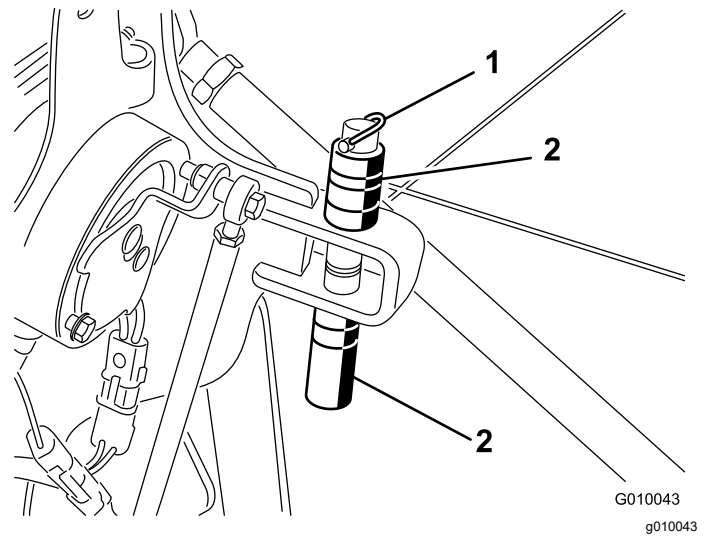

Figure 20
2. Remove the lynch pin retaining the spacers and depth pins (Figure 20).